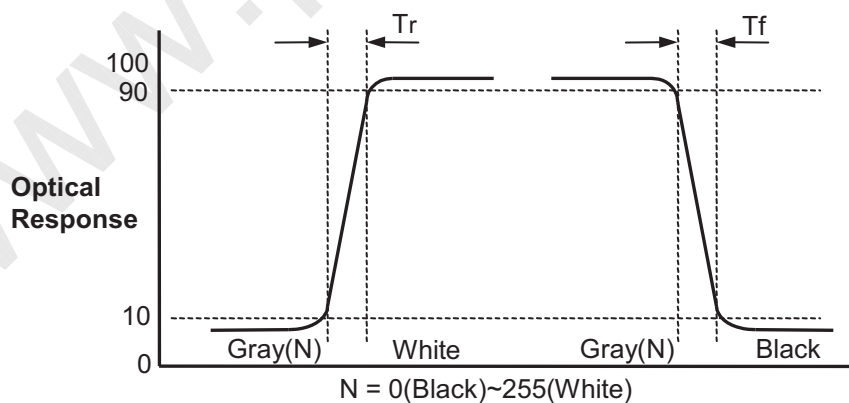

FIG. 3 Response Time
- Response time is the time required for the display to transit from any gray to white (Rise Time,  $\text{Tr}_R$ ) and from any gray to black (Decay time,  $\text{Tr}_D$ ). For additional information see the FIG. 3.